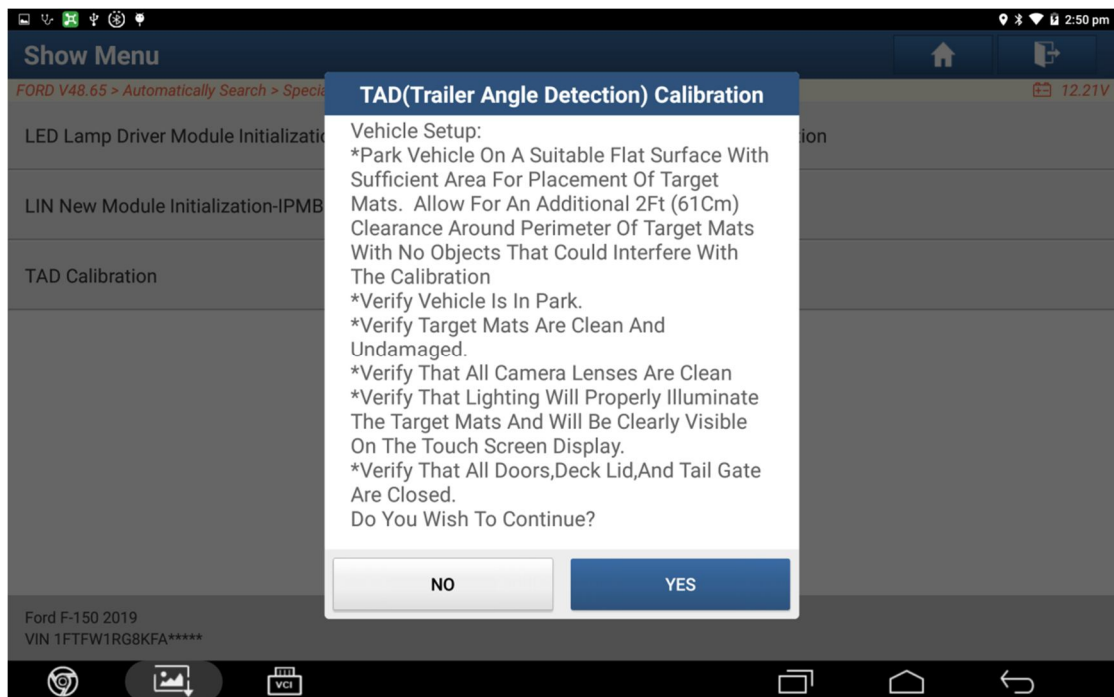

Figure 9
8. Prompt the surrounding environment to ensure enough space and precautions for the vehicle (Figure 9).